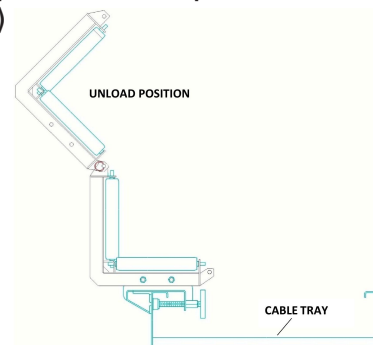

FIGURE 3
2. Remove the quick release pin and open the Four-Sided Roller to load cable. Close the Four-Sided Roller and re-insert the quick release pin before beginning the pull. After cable pull is complete, remove the quick release pin and unload the cable into the cable tray. (See Figure 3.)